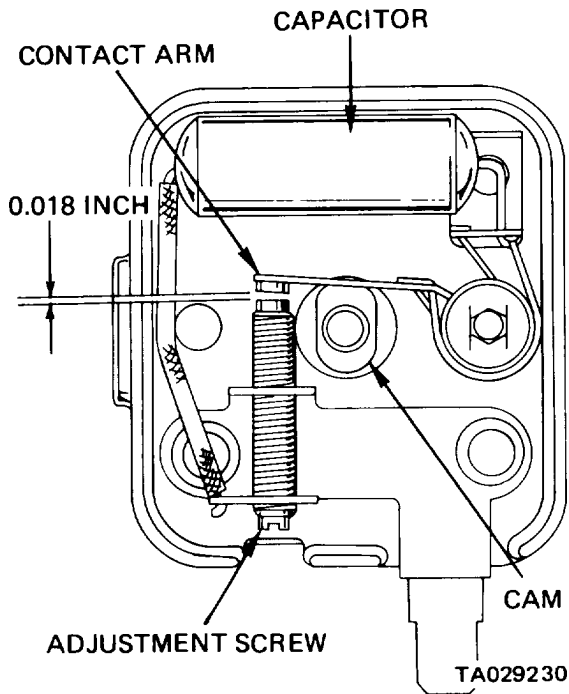

Figure 23-1. Breaker Point Adjustment.
- (1) Remove the cover from the ignition unit base.
- (2) Rotate the cam until it raises the breaker points' contact arm as far as it will go (figure 23-1).
- (3) Rotate the adjusting screw until a gap of 0.018 inch is obtained between the points.
- (4) Rotate the cam 180° and recheck the gap. It must be between 0.012 inch and 0.021 inch. If it is not, set the gap at 0.018 inch at this position. Rotate the cam 180° and check the gap again. If it is now between 0.018 inch and 0.021 inch the gap is set. If it still is not within the proper range, replace the ignition unit (*b*, below).
(5) Reinstall the cover.